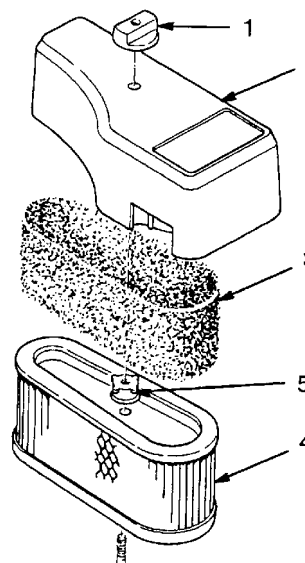

Figure 22
2. Unscrew the knob and remove the air cleaner cover (Fig. 22).
3. Carefully slide the foam element off of the paper element (Fig. 22).
4. Unscrew the nut and remove the paper element (Fig. 22).
2. Carefully slide the foam element onto the paper air cleaner element (Fig. 22).
3. Slide the air cleaner assembly onto the long rod. Tighten the nut securely (Fig. 22).
4. Install the air cleaner cover and knob (Fig. 22). Tighten the knob securely.